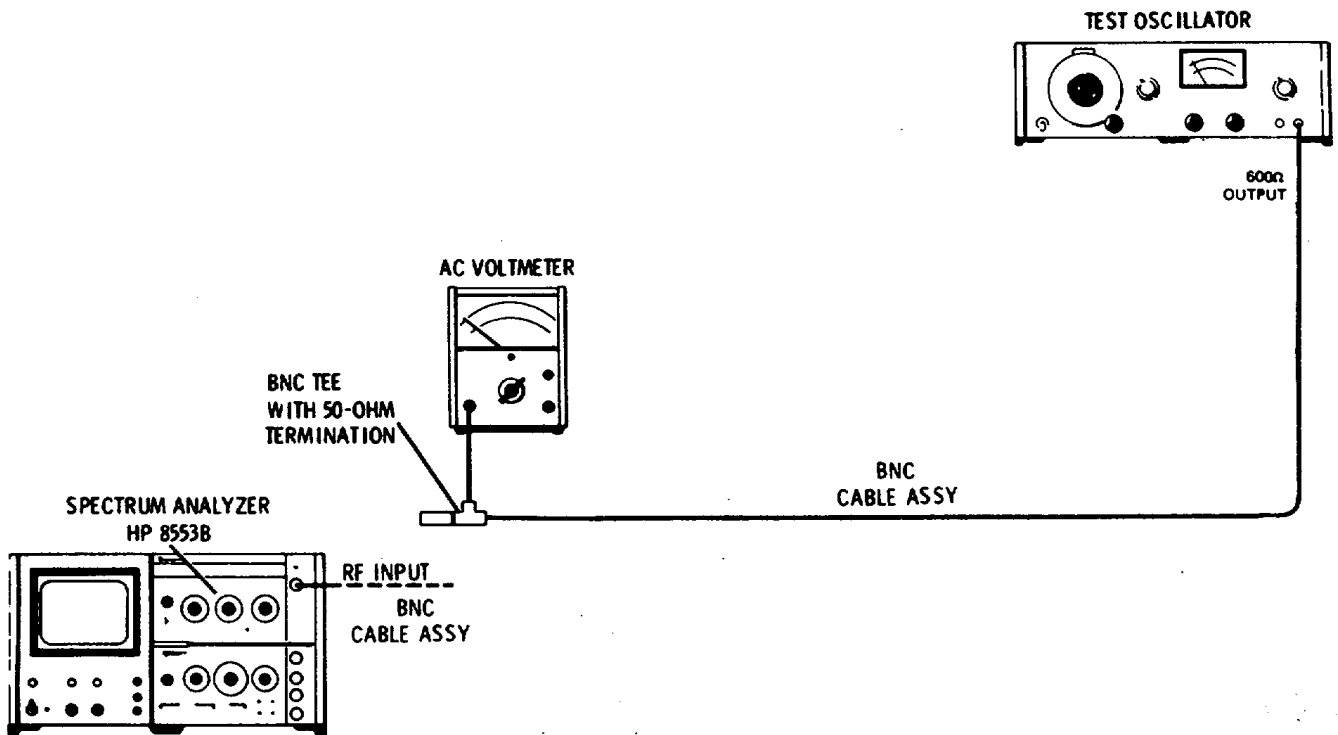

Figure 4-4. Input Impedance Accuracy Test: 2 kHz to 500 kHz
3. Connect test oscillator and voltmeter as indicated in Figure 4-4.